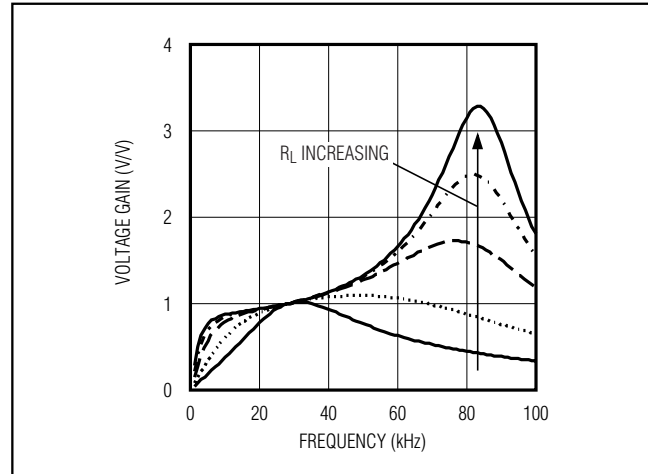

Figure 8. Frequency Response of the Resonant Tank
Figure 8 shows the frequency response of the resonant tank's voltage gain under different load conditions. The primary series capacitor is $1\mu F$, the secondary parallel capacitor is $15pF$, the transformer turns ratio is 1:93, and the secondary leakage inductance is $260mH$. Notice that there are two peaks, f_s and f_p , in the frequency response. The first peak, f_s , is the series resonant peak determined by the secondary leakage inductance (L) and the series capacitor reflected to the secondary (C_s'):